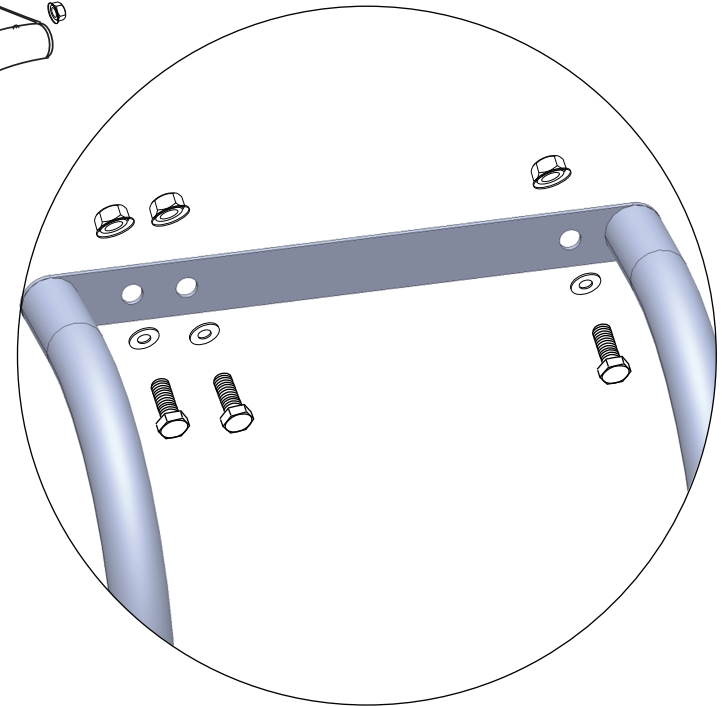

FIGURE 4
7. NOW POSITION THE LADDER ON THE VAN, HANGING SO THAT IT LINES UP WITH THE LOWER BRACKET AND INSTALL THE TWO M10-25MM SOCKET HEAD SCREWS WITH WASHERS AND NYLOCK NUTS (SEE FIGURE 4) AFTER TIGHTENING GO BACK AND TIGHTEN THE THREE M8 SCREWS UP TOP.